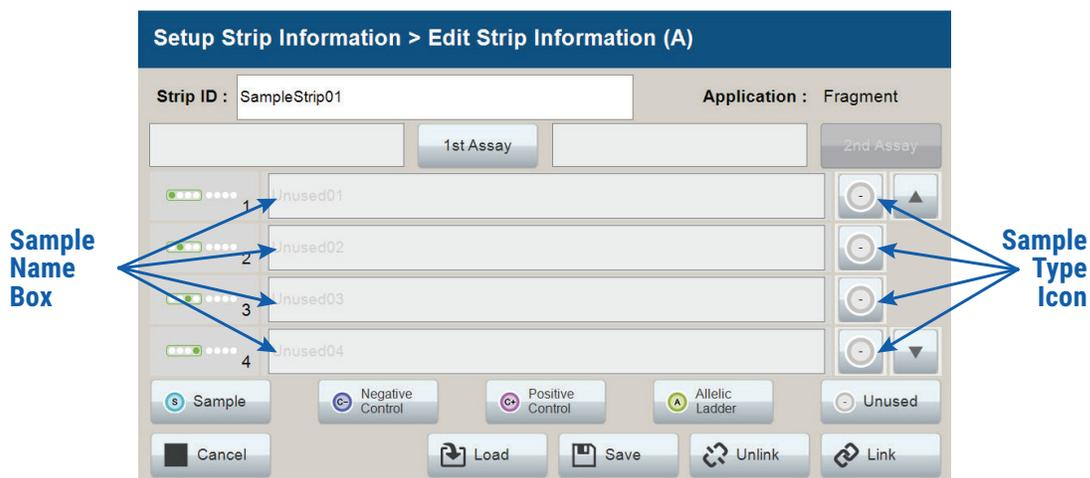
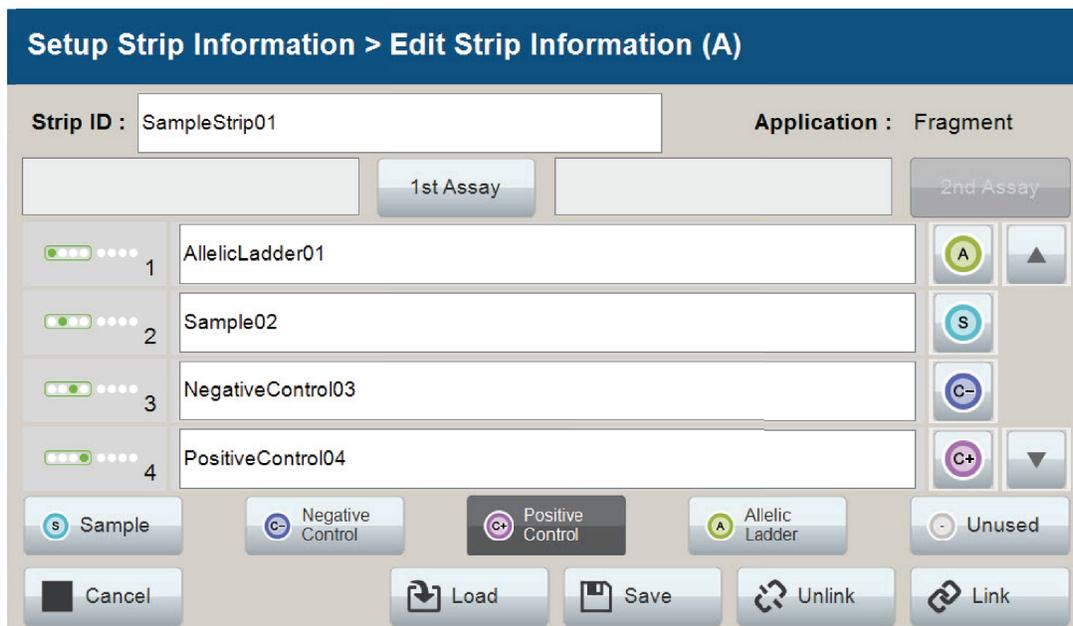
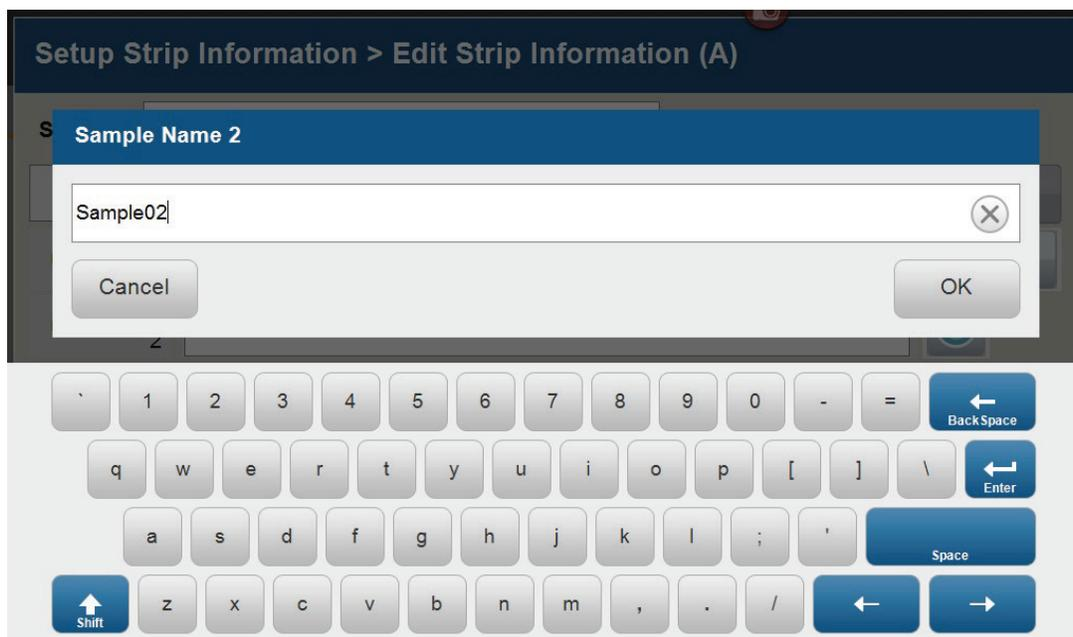
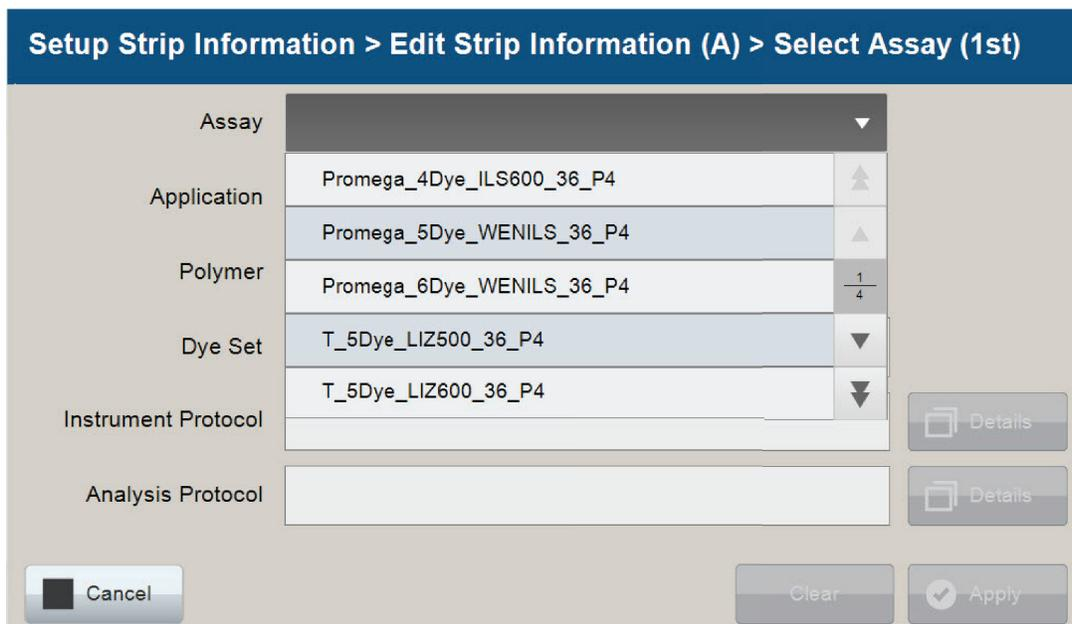

Figure 12. Sample Type and Sample Name on 'Edit Strip Information' screen.
Figure 13. Sample Name Entry on 'Edit Strip Information' screen.
Figure 14. 'Set Sample Name' window.
Figure 15. 'Select Assay' window.
4. Select a sample type on the 'Edit Strip Information' screen (Figure 12). Sample types must be selected for each well position before the Sample Name box becomes active for entry of sample name. Sample types are as follows.
5. To assign a sample type to a well, select the appropriate sample type along the bottom of the 'Edit Strip Information' screen (Figure 12), and then select the **Sample Type** icon to the right of the sample name field for the desired well. This icon will then display the sample type selected for that well (Figure 13).
6. Enter a sample name for each well position by selecting the Sample Name box adjacent to the well number on the 'Edit Strip Information' screen (Figure 13). This opens the 'Set Sample Name' window and a keypad will become active on the touch screen (Figure 14). Alternatively, the Sample Name can be entered using a traditional keyboard if one is connected to the Spectrum Compact CE System. Enter the appropriate sample name, and then select **OK** to exit and return to the 'Edit Strip Information' screen.
- The Spectrum Compact Control Software includes preloaded run assays for use with chemistries available from Promega. Refer to the *Spectrum Compact CE System Operating Manual #TMD058* for information on creating or modifying assays. To assign a run assay to an injection set, select **1st Assay** on the right side of the 1st Assay field (Figure 13). This opens the 'Select Assay' window (Figure 15). Select "Promega_4Dye_ILS600_36_P4" from the drop-down list (Figure 15) and then select **Apply**.